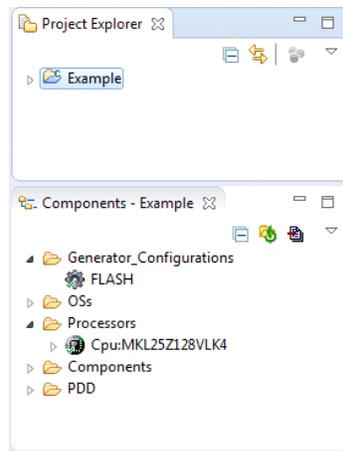

Figure 11. Project Explorer and Components panel with the project created
5. Figure 11 shows the Project Explorer panel and the Components panel after the project has been successfully created.